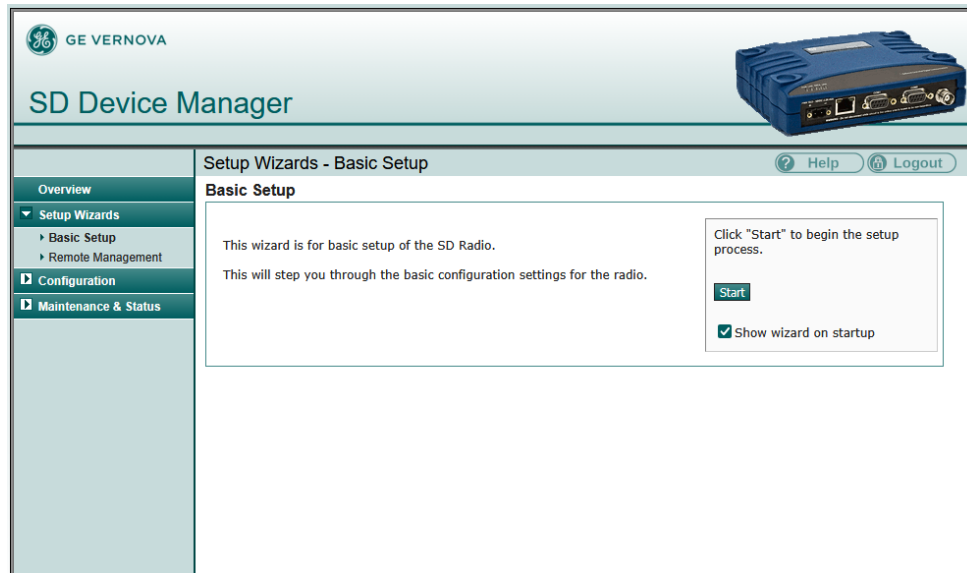

Figure 25. Basic Setup Wizard
5. **Configure Basic Settings.** Connect a PC to the radio’s Ethernet connector. Access the radio’s *Device Manager* through the PC’s browser (default is IP address is 192.168.1.1). On a factory default radio, the *Device Manager* automatically starts the *Basic Setup Wizard* as seen in Figure 25 on Page 28. The wizard steps you through the essential radio settings in streamlined fashion. Detailed steps for starting configuration of the radio are presented in Initial Configuration below.
4. The Basic Setup Wizard (Figure 25) begins automatically upon connection to a new factory shipped radio. It may also be started manually by selecting `Setup Wizards>>Basic Setup`, and then clicking `Start`. The Wizard displays a series of screens with key selections as follows: